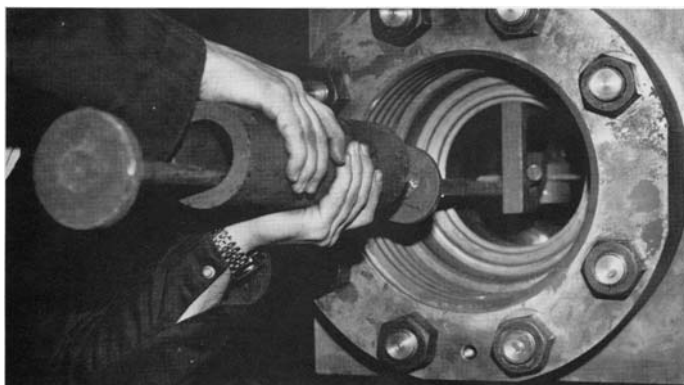

Fig. 4-5 Removing suction valve retainer
3. Pull wedge shaped valve retainer from slot in suction valve guide (Figures 4-5)
4. Rock valve guide slightly to loosen. Lift guide upward in vertical bore and rotate 90 degrees to remove (Figures 4-5, 4-6).
7. Inspect the valve guide and retainer to be sure they are installed correctly. (Fig. 4-5)